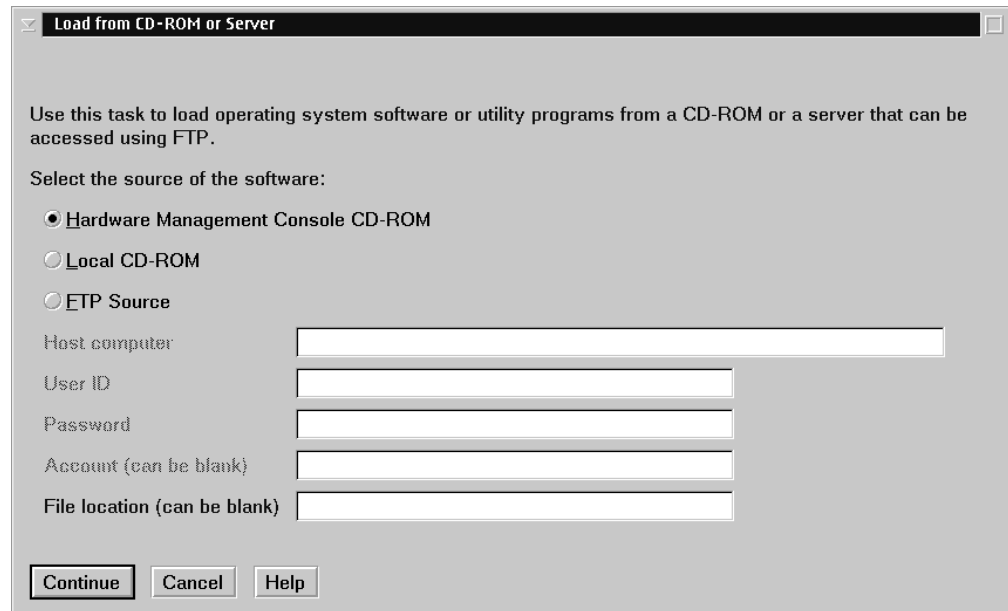

Figure 68. Load from CD-ROM or Server panel
5. Click the “Load from CD-ROM or Server” icon in the Task Area to display the “Load from CD-ROM or Server” panel (Figure 68 on page 379).